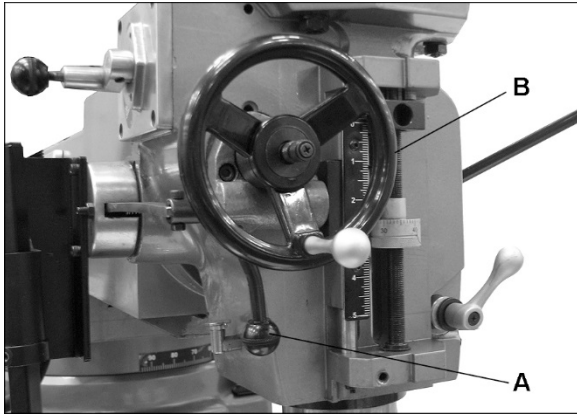
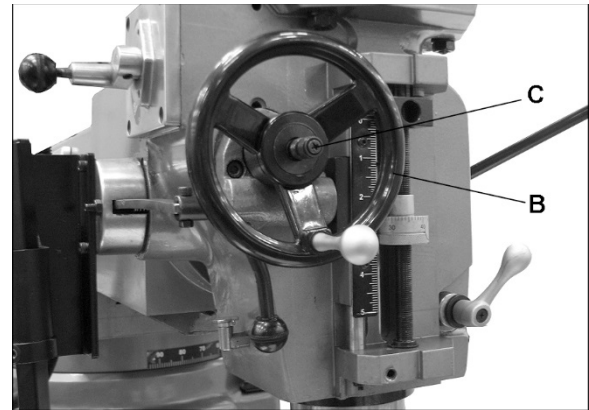

Figure 8-6
Figure 8-7
The *Feed Trip Cam Lever* (A, Figure 8-6) is located behind *Manual Fine Feed Handwheel* (B). It engages the overload clutch on pinion shaft when positioned to the left.
The *Feed Direction Control* (C, Figure 8-7) determines whether power feed will move up, down, or not move at all. The position of knob depends upon direction of spindle rotation (see sect. 8.2, Motor Direction Switch). Position of the control may be changed with the system stopped or running. If the control does not engage easily, move fine feed handwheel (B, Figure 8-7) back and forth to aid engagement.
When the controls are set for the *Fine Feed Using Handwheel* position (see Table 2), the *Fine Feed Handwheel* (B, Figure 8-6) can be used for manual fine feed control in either upward or downward direction of quill. Set feed direction control (C, Figure 8-7) at neutral position.